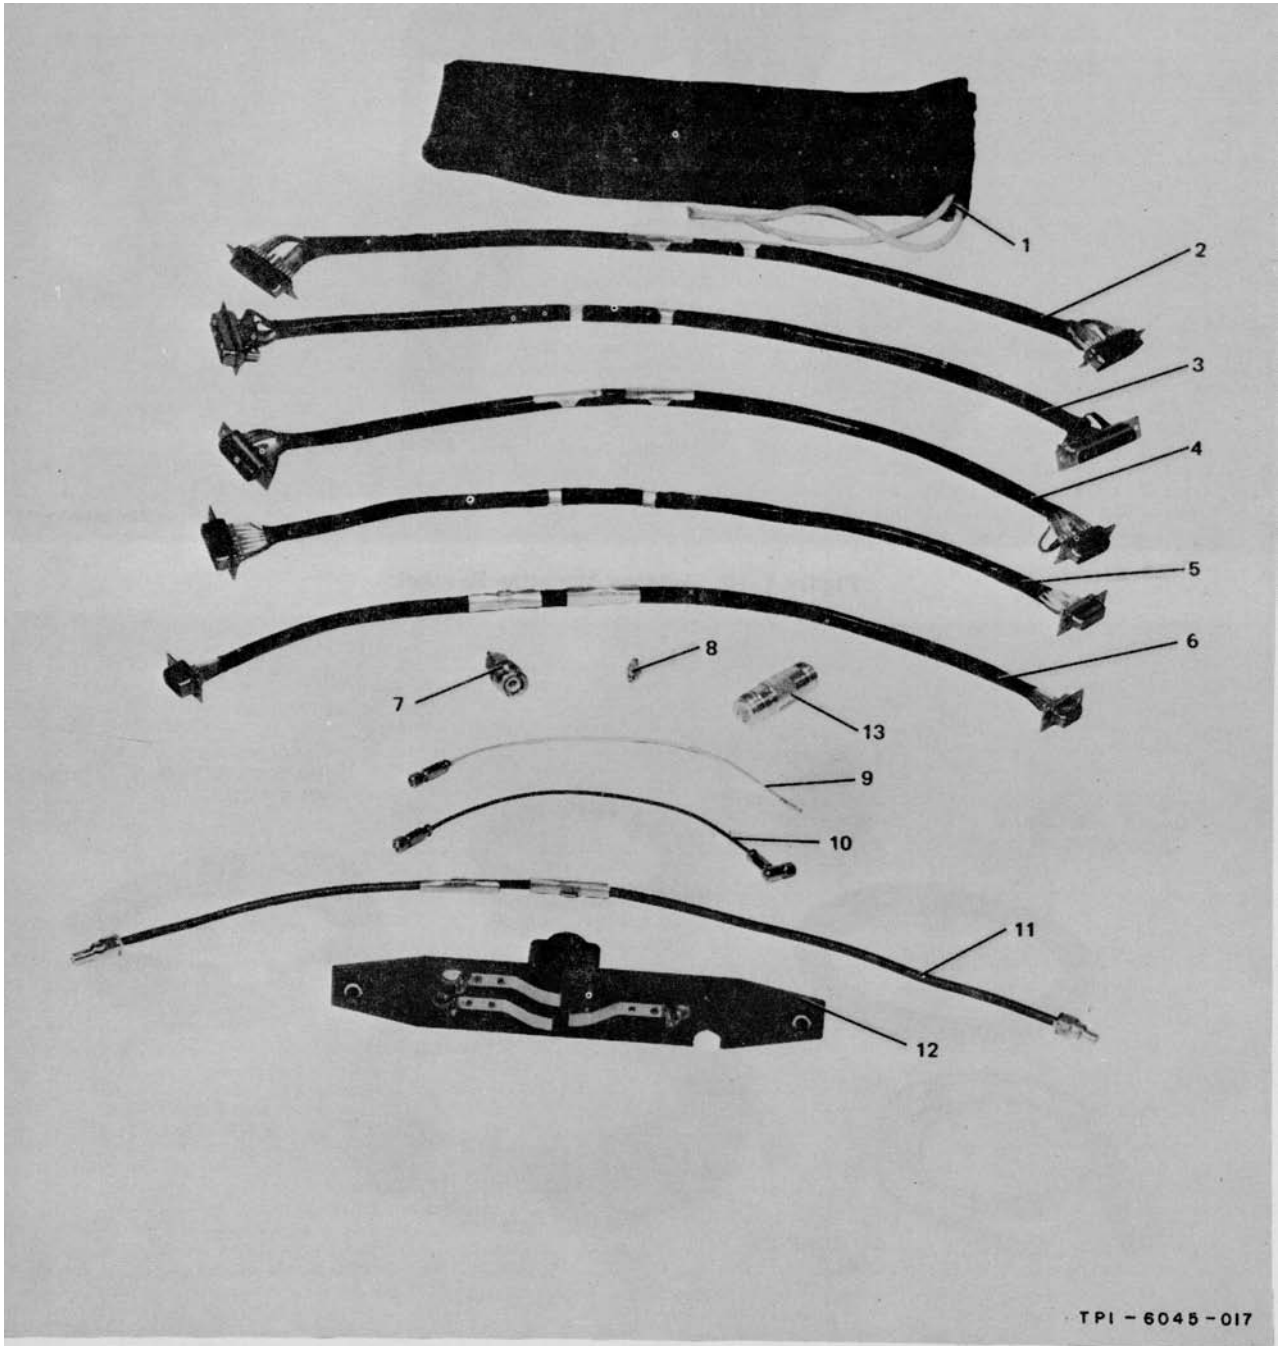

Figure 1-12. Maintenance Cable Kit
(11) MAINTENANCE CABLE KIT. (Refer to figure 1-12) - The maintenance cable kit is composed of five multipin cables, one Microdot cable, two Conhex cables, a BNC -to-Conhex connector, a Conhex-to-Conhex connector, and a dc maintenance adapter.